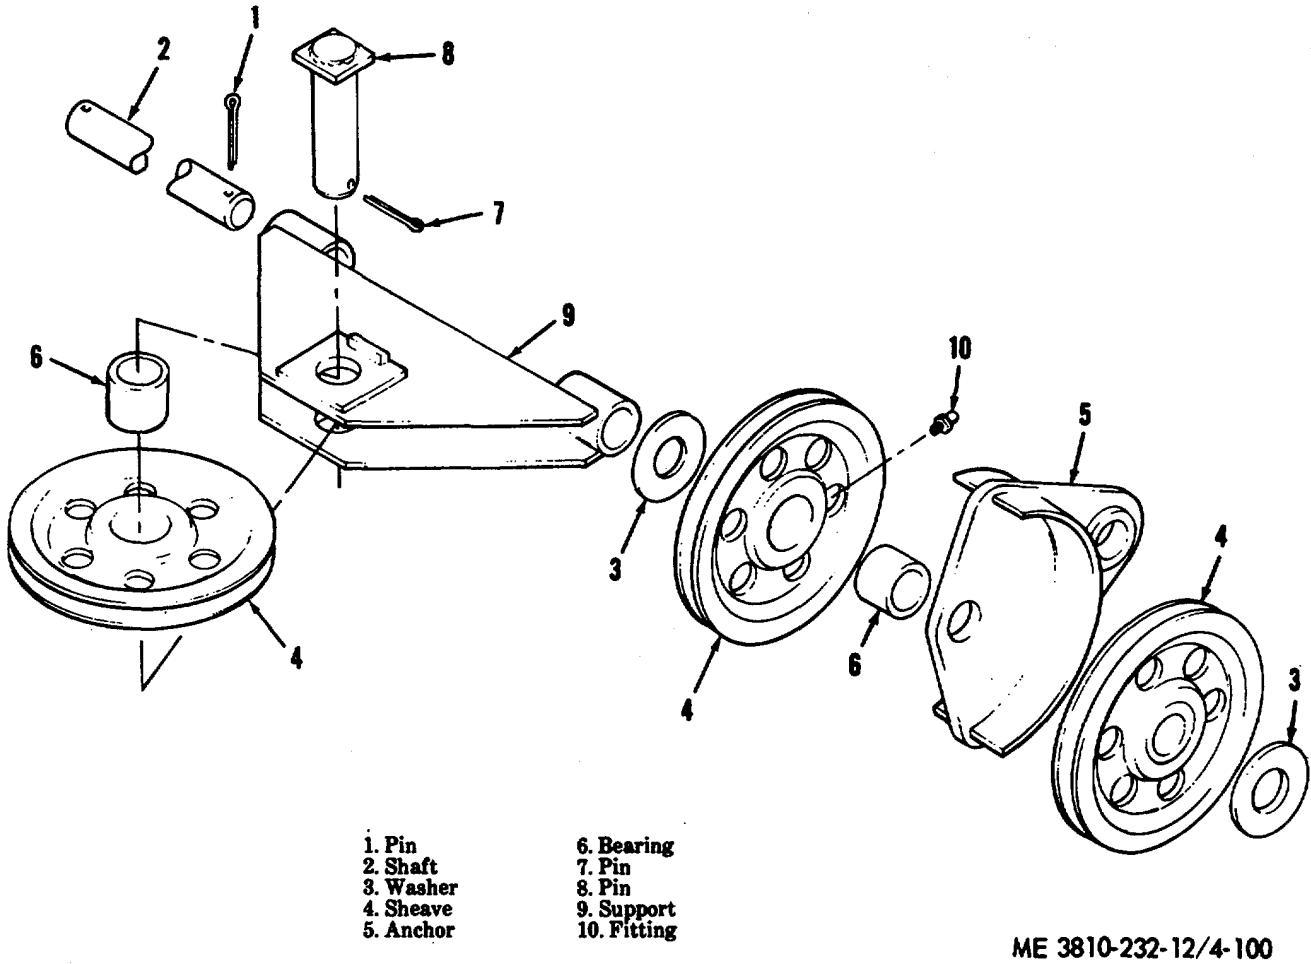

Figure 4-100. Bridle assembly, disassembly and reassembly.
- (1) Install boom on revolving frame (para 24).
- (2) Install reeving (para 2-2).
- b. Disassembly. Disassemble bridle assembly as illustrated in figure 4-100.
(1) Clean all parts.
(2) Inspect all parts for cracks, excessive wear, or other damage. Repair by replacing defective parts.
d. Reassembly. Reassemble bridle assembly as illustrated in figure 4-100.